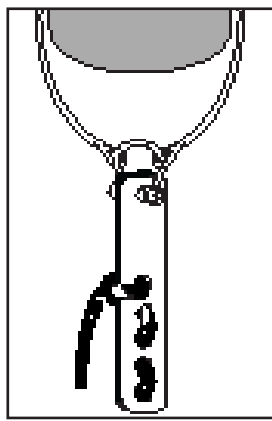

Fig. 3
H.3.1 Lifeline safety rope is not to be used as a sling. It should not be wrapped around an anchor point that is rough or has sharp edges. Use of an appropriate sling as a connection point for a HOLD-ME® around a difficult anchor point is advised (See Figure 3, page 7).